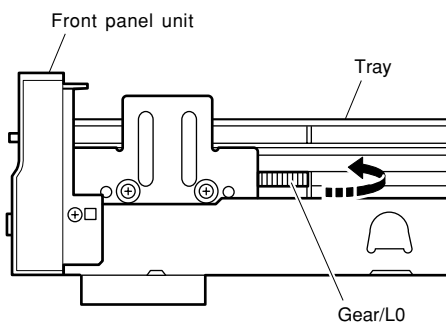

Fig. 2
- Turn gear/L0. (Fig. 2) Counter clockwise gradually until immediately before the tray starts to move and stop it there.